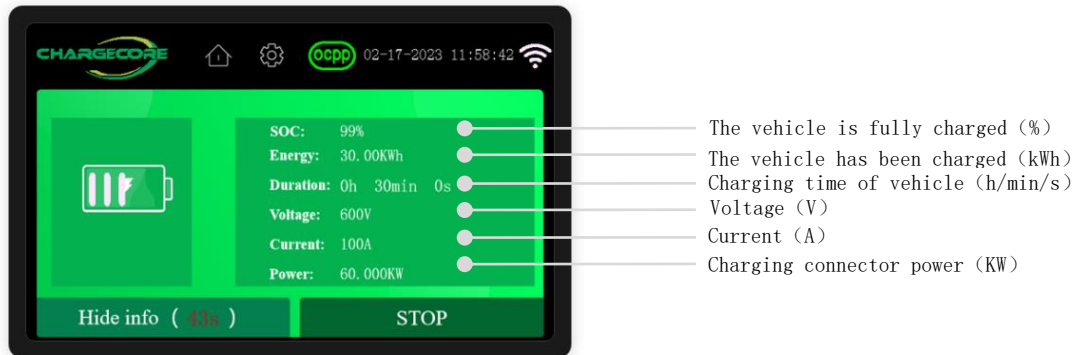

Figure 46. Charging interface
- Check vehicle charging details in real time (as shown in Figure 46)